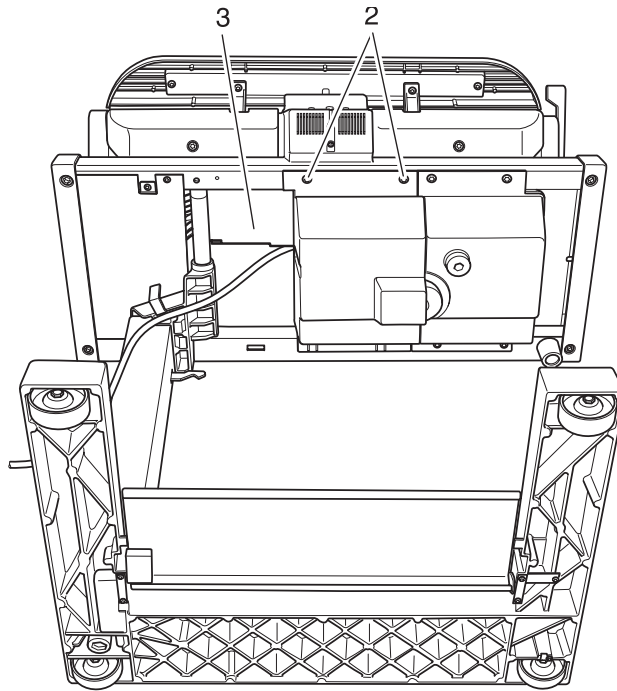

Fig. 7a
- Lay the high-speed iron face-up on the floor (fig. 7a)